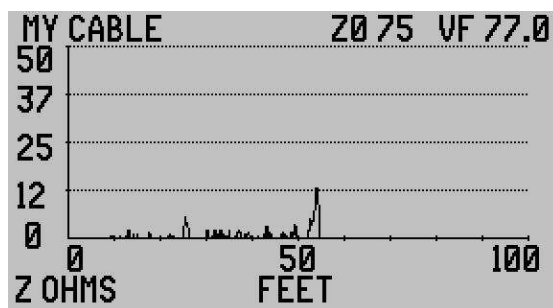

Figure 2-6A
**KINKS ONLY** – TDR presents an amplified trace of reflections from kinks, crimps or crushed areas along the cable. The cable’s  $Z_0$  is plotted at the bottom of the plot with the faults appearing as upward reflection spikes. See figure 2-6A.
In figure 2-6A the micro fault at about 25 feet (5 Ohms) may not be service affecting. The micro fault at 55 feet (12 Ohms) is most likely service affecting. Anything over 15 Ohms is certain to affect service.